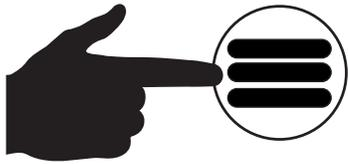

Figure 128. Main Menu Button
13. Press the **Main Menu** button (Figure 128).